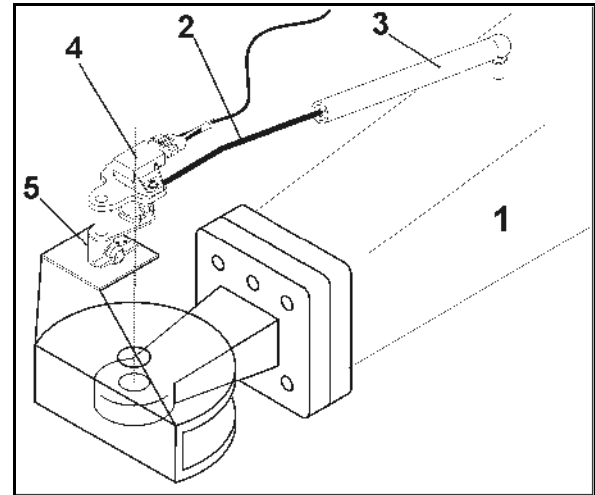

Fig. 44
TrailTron tracking control for automatic, virtually 100% precise tracking captures the position of the angle of the drawbar (Fig. 44/1) to determine the direction of travel of the tractor.
1. Insert the rod (Fig. 44/2) into the plastic bush (Fig. 44/3) stecken.
2. Insert the position encoder (Fig. 44/4) into the holder (Fig. 44/5).